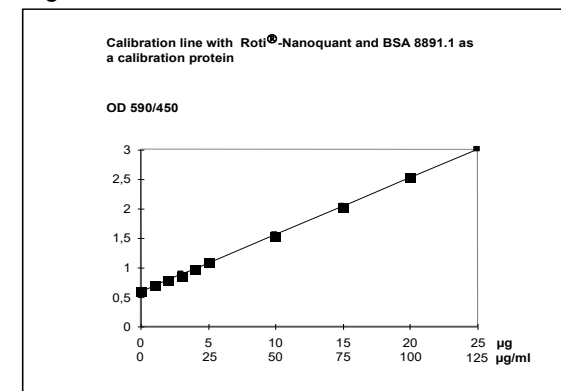

Figure 3 (cuvette assay)
6. Plot quotient $\text{OD}_{590}/\text{OD}_{450}$ and compare to amount of protein used (figure 3). The protein amount in your sample corresponds to a certain value of the calibration line.